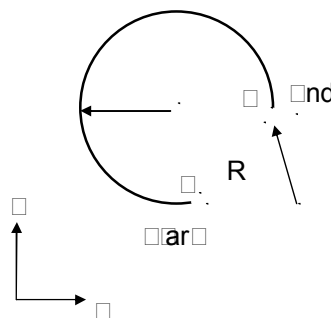

Fig. 3-10 Arc cutting
2. There are two different arc types available for arc cutting (Fig. 3-10):
In Fig. 3-10, an arc is cut with an angle $< 180^\circ$ (+R):